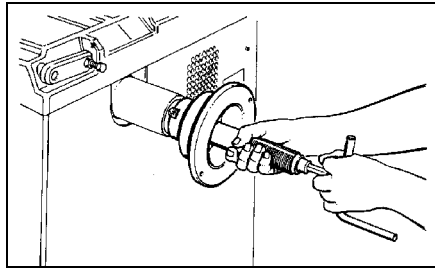

fig.9
- Fig. 9 shows the **cone flange** fixing system.